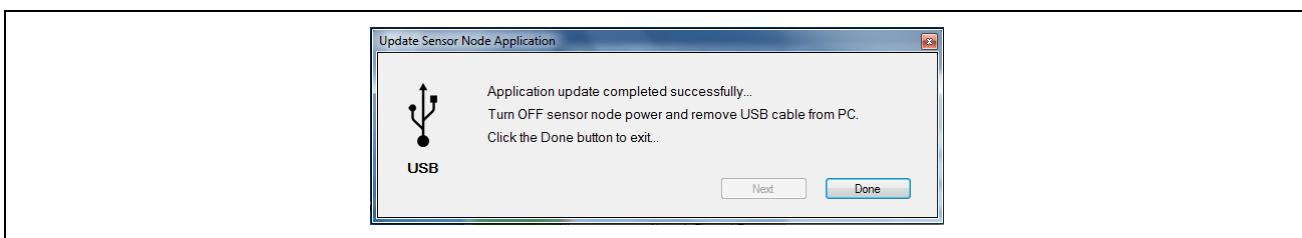
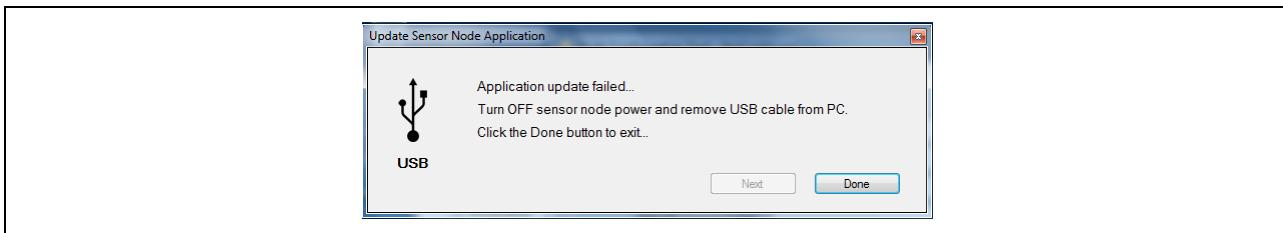

Figure 16 Application Completed Successfully Dialog
Figure 17 Application Update Failed Dialog
- 13 If the update completed successfully the dialog seen in Figure 16 will be shown. If the update failed then the dialog seen in Figure 17 will appear indicating that the update failed.